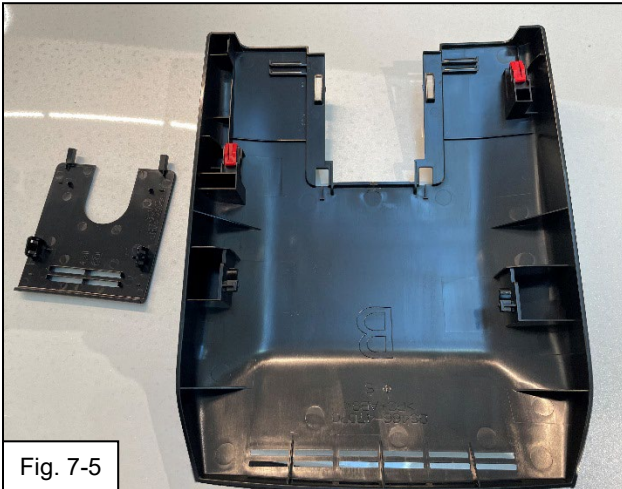

Fig. 7-5
- (d) Remove the TSS main cover by sliding the cover down (Fig. 7-5, shown from the back side for clarity) from the TSS cover base in the direction of the bottom of the windshield / towards the wiper cowl area. Both covers should now be fully removed. (Fig. 7-5)